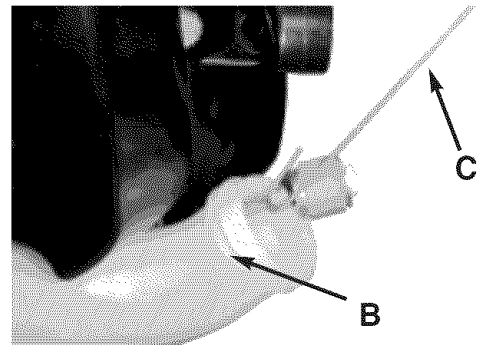

Fig. 23
1. Completely remove fuel cap from fuel tank (B) to be able to remove fuel filter (C) from tank. Use a piece of wire (C) with a hook formed at the end to pull filter out of tank. (Figure 23)